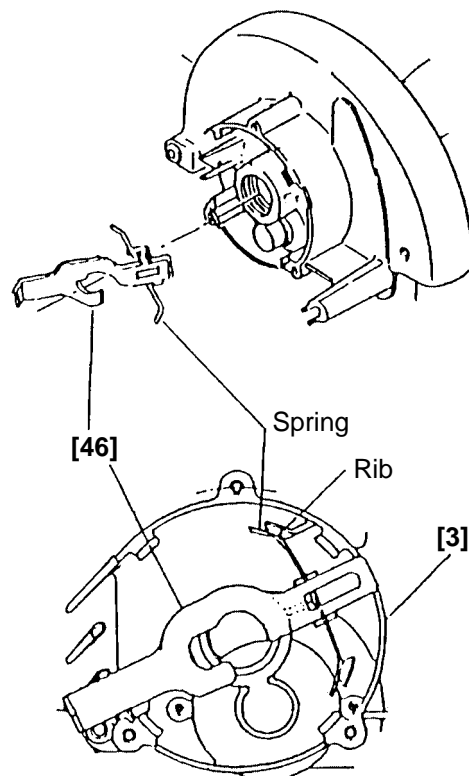

Fig. 3
(3) Reassembly of the Lock Lever **[46]** (See Fig. 3.)